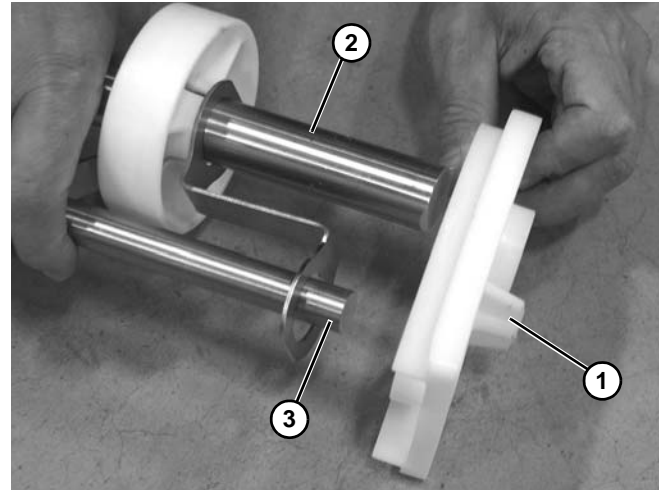

Figure 92
6. Remove tracking plate (**Figure 92, item 1**) from puck rod (**Figure 92, item 2**) and idler shaft (**Figure 92, item 3**).